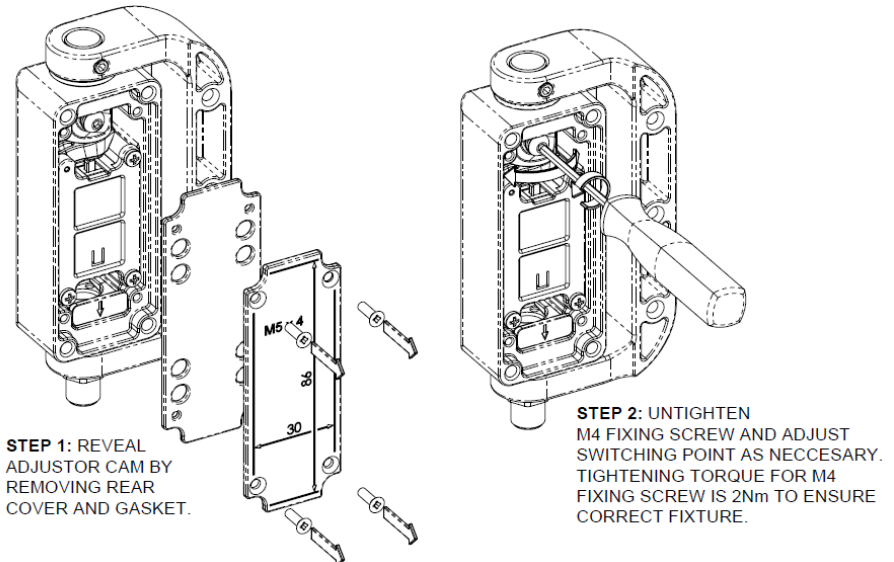

Fig.1: (If Required) Positive Opening Angle Adjustment during Installation
5. **IMPORTANT:** If the hinge switch activation angle is adjusted during installation, the cam locking screw must be re-tightened to a torque of 2Nm. See Fig.1 opposite. Ensure rear cover and gasket are re-fitted correctly using M3 screws provided.